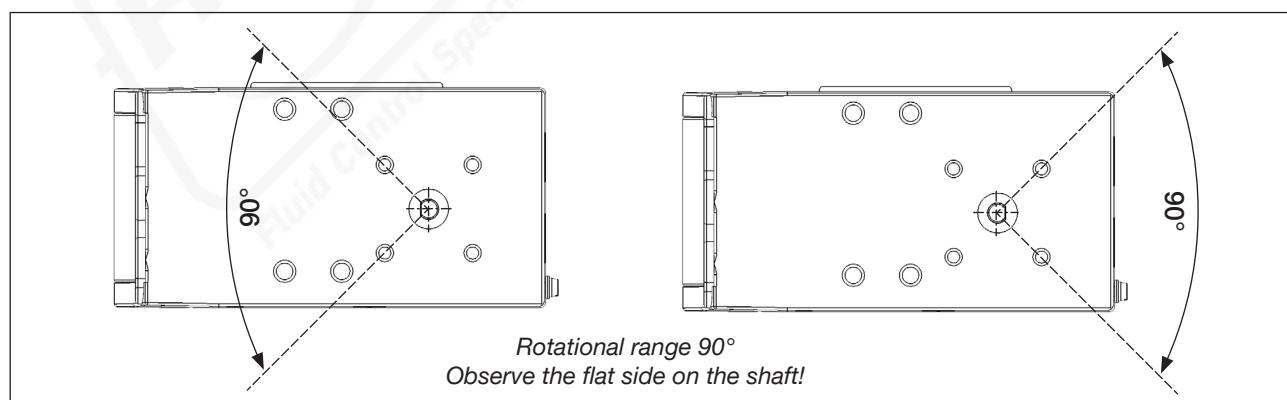

Figure 22: Rotational range
- Align the flat side of the shaft to the rotational range (see "Figure 22").